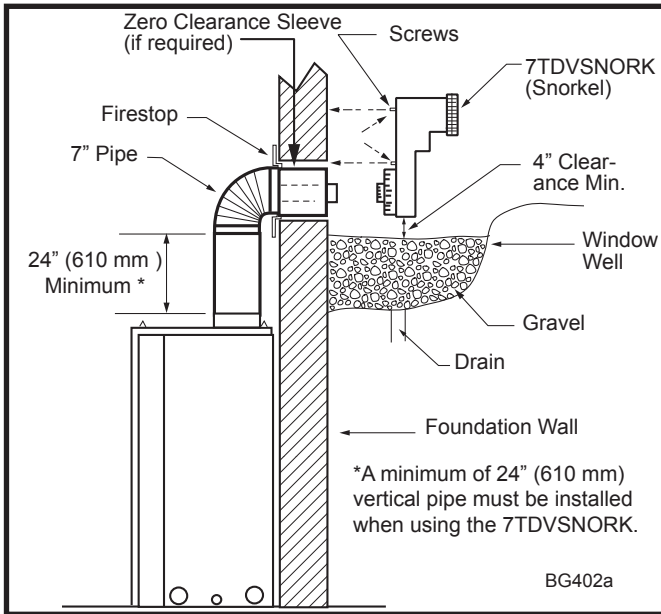

Fig. 21 Below grade installation.
2. Remove soil to a depth of approximately 16" (406 mm) below base of snorkel. Install window well (not supplied). Refill hole with 12" (305 mm) of coarse gravel leaving a clearance of approximately 4" (102 mm) below snorkel. (Fig. 21)
7. Level the soil to maintain a 4" (102 mm) clearance below snorkel. (Fig. 21)